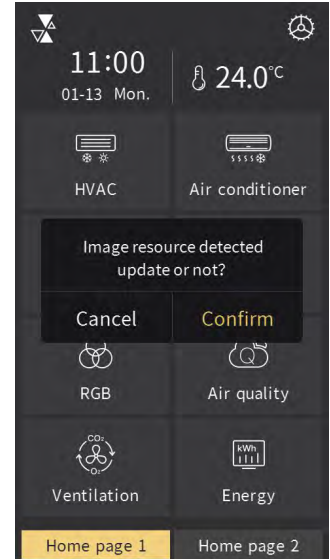

Fig.3.4
2. Insert Micro SD card into the device, if Micro SD card meet the above settings, and valid pictures are detected, then will pop up a request window to confirm update, as shown in Fig.3.4;